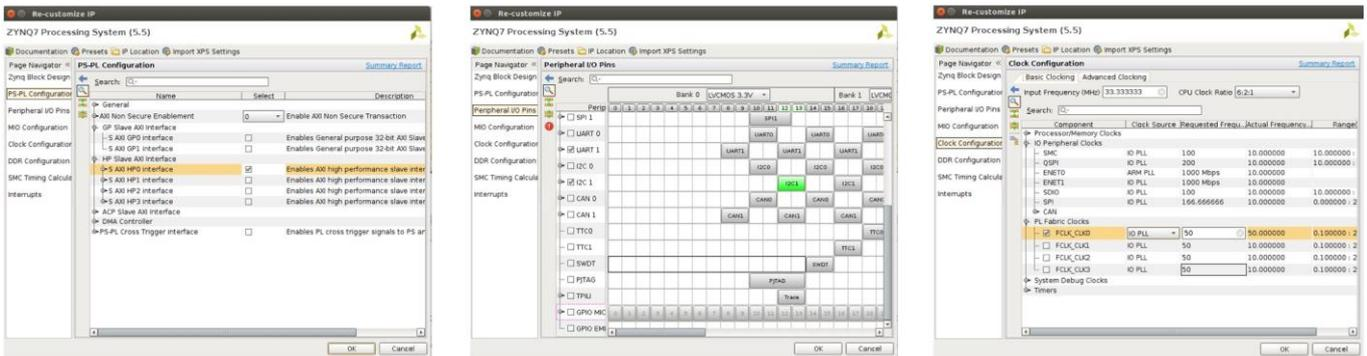

Figure 20: Zynq Wizard (left) PS-PL Configuration (centre) Peripherals Timing (right)
- Click on PS-PL Configuration -> HP Slave AXI Interface and De-select S AXI HPO INTERFACE (see Figure 20 (left))
- Clock Configuration. Select only FCLK_CLK0 and change its value to 50 MHz. (see Figure 20 (right))